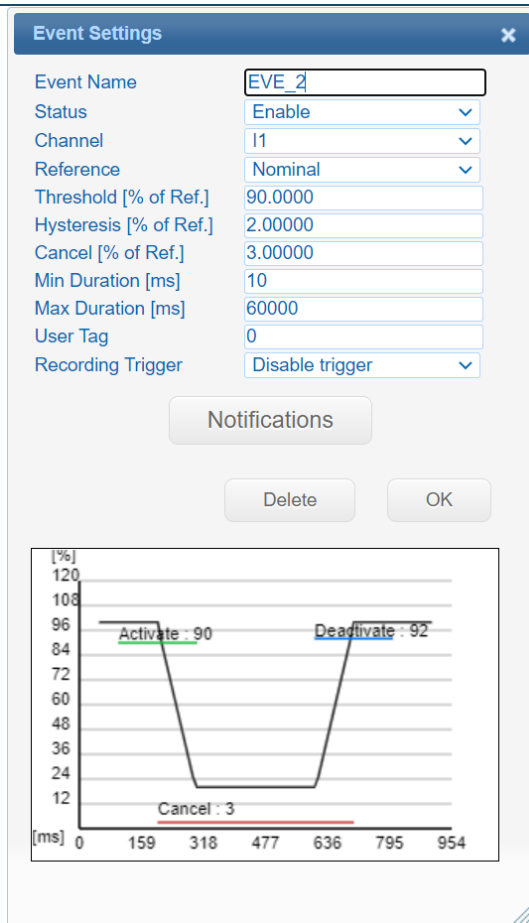

Figure 5-7: Event Settings Window – 1
- 2** Select the classification (type) of the event by clicking one of the displayed buttons. Figure 5-7 shows a new event with the Event Name created when clicking Add New Event and selecting a **Dip** event type.